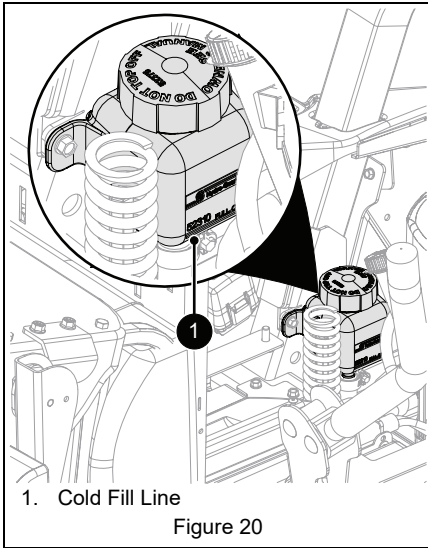

Figure 20
2. Check oil level in expansion tanks. Oil should reach the cold fill indicator mark. See Figure 20.
- b. Fill expansion tanks with 15W-50 synthetic motor oil until oil reaches the cold fill indicator mark. See Figure 20.